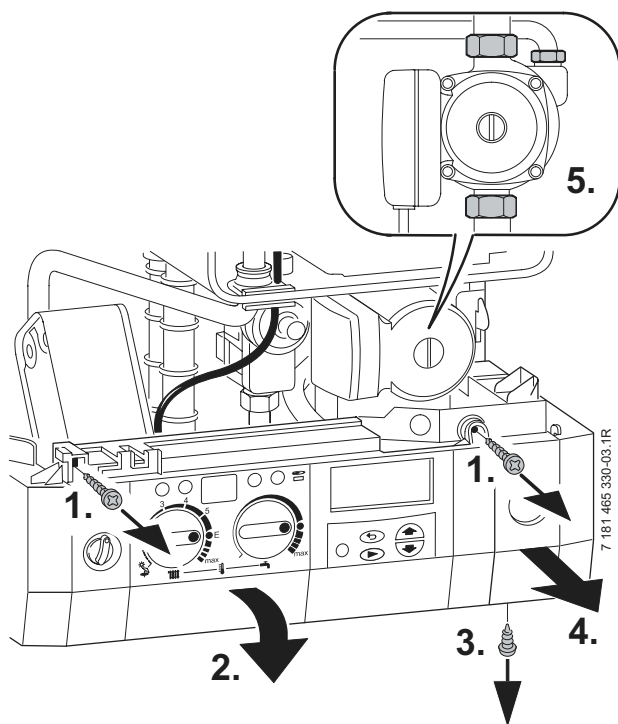

Fig. 58
- ▶ Remove two switch box fixing screws (1.). Refer to fig. 58.
- ▶ Unscrew the pump union nuts (5.). Refer to fig. 58.
- ▶ Lower the control panel. Refer to fig. 58.
- ▶ Lower the facia. Refer to fig. 58.